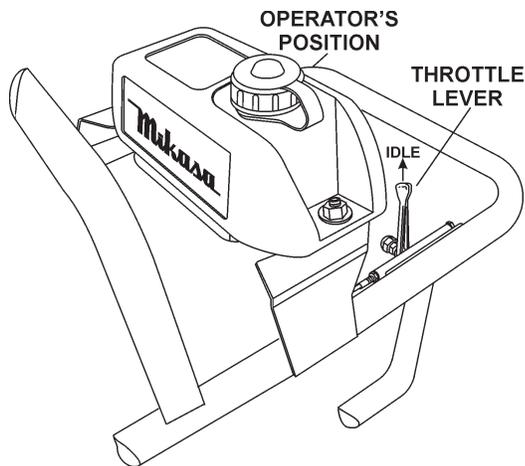

Figure 13. Throttle Lever (Idle)
- Move throttle lever quickly from the **FULL OPEN** to **IDLE** position (Figure 13) and run the engine for three minutes at low speed.